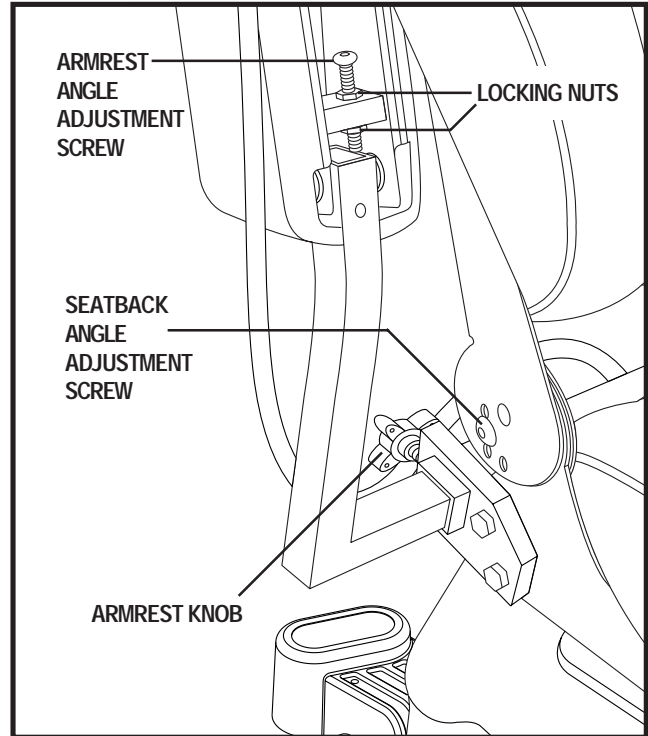

Figure 20. Seatback and Armrest Adjustments
If your power chair is equipped with an angle adjustable seatback, you can adjust it to four (4) different angles: 90°, 102°, 105°, or 107°. See figure 20.
1. Locate the two armrest knobs on each side of the armrest receiver bracket. See figure 20.
2. Loosen the locking nuts. See figure 20.
3. Loosen the armrest angle adjustment screw. See figure 20.